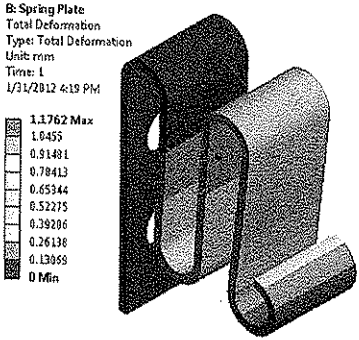

Figure 9-60 Total Deformation for the Spring Plate analysis system
- 4. In the **Mechanical** window, select the **Total Deformation** node available under the **Solution** node in the Tree Outline; the respective Legend is displayed in the Graphics screen. Also, the deformed shape of the model is displayed in the Graphics screen, refer to Figures 9-60.
Figures 9-60 and 9-61 display the Total Deformation and Equivalent Stress for the **Spring Plate** analysis system.